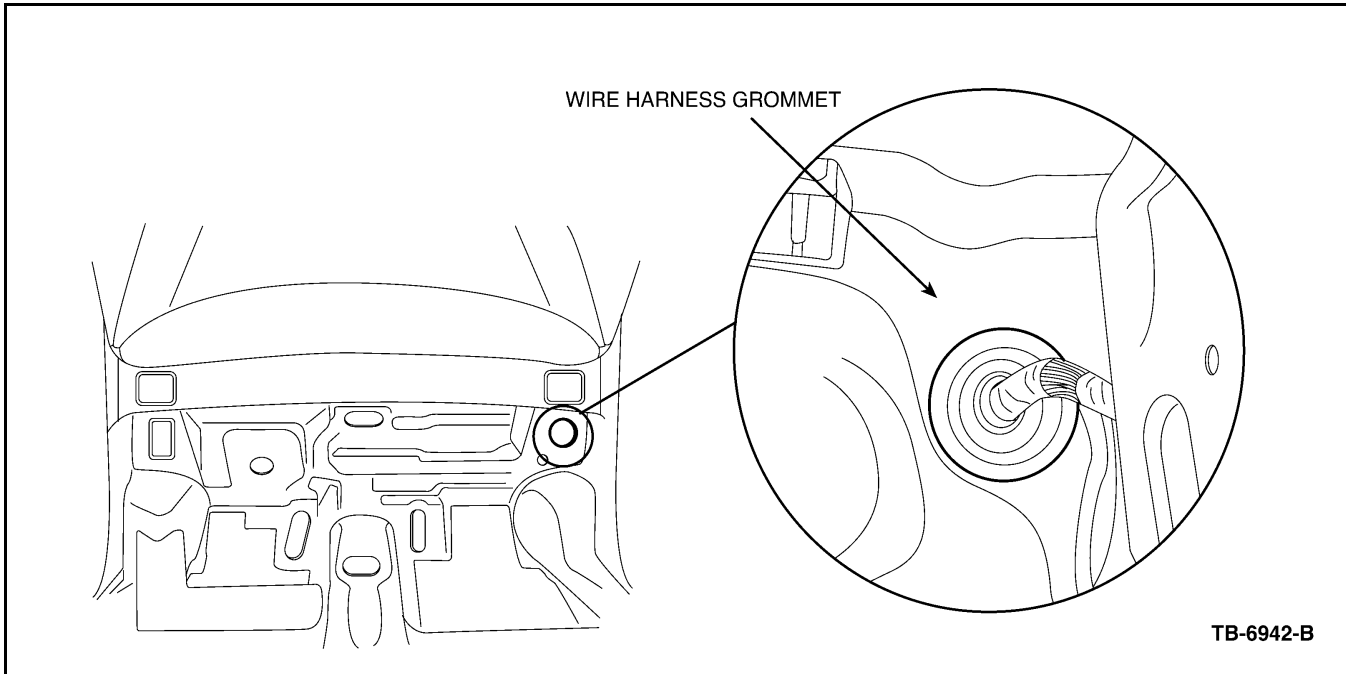

Figure 6 - Article 05-13-3
2. Inspect for wire harness body grommet loose or mis-positioned. Reposition or reinstall grommet as necessary (Figure 6).